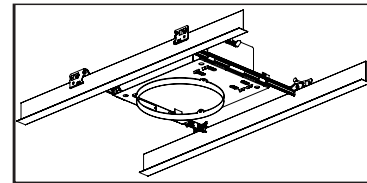

Figure 14
**Step 3.** Place frame into position and snap bar hanger foot with integral T-bar notch onto T-bars (Fig. 14) Lock in place. Additional holes are provided for securing with wire or screws if desired.